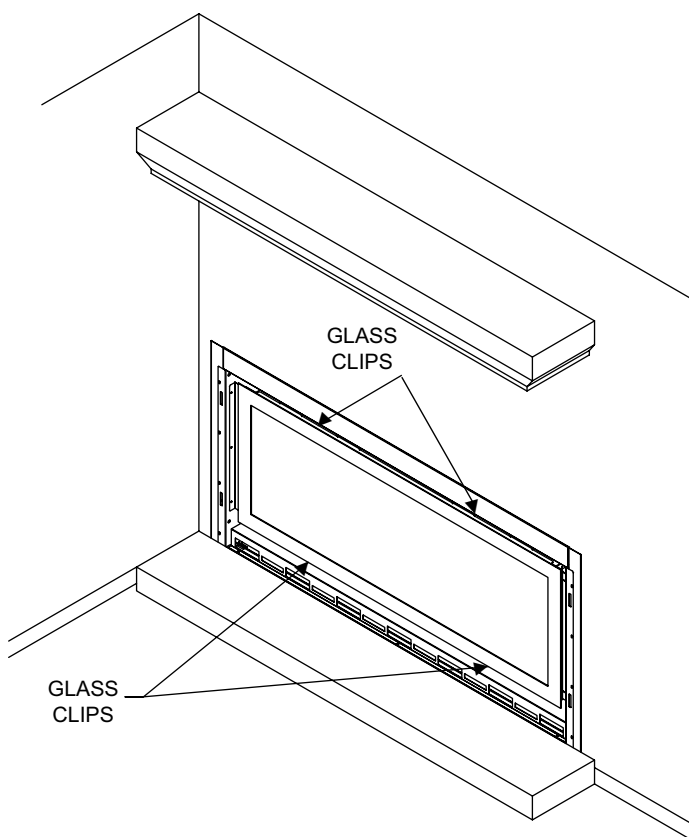

Figure 57
4. To replace, reverse the above steps. See **Figure 57**.